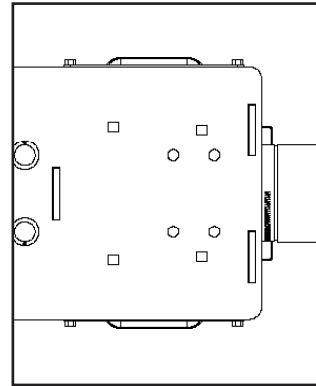

Figure 1: Mounting holes
1. Mount the Superdrive pump on the sprayer using 3/8" bolts and lock washers through either the four square holes, or the four round holes on the bottom of the pump drive housing (Figure 1).